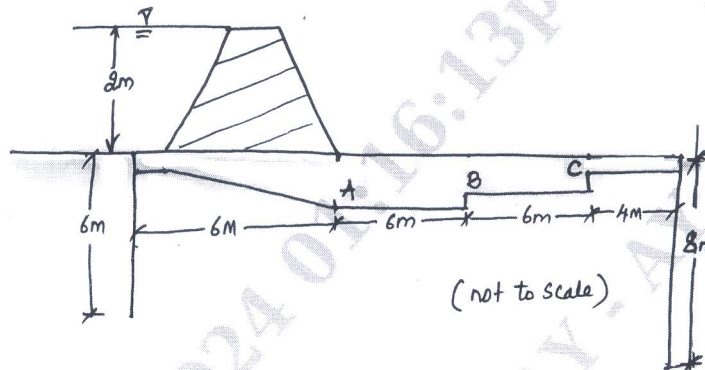

Fig Q6(b)
b. The c/s of a weir is shown in Fig Q6(b)